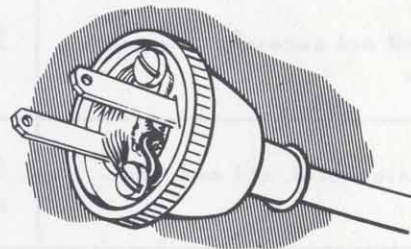

Figure 7
- 5. Plug connections fuzzy (Figure 7) _____